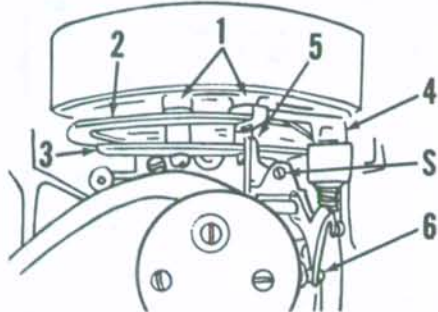

Fig. Mc5-3—Schematic view of speed control linkage used. Refer to text for details of adjustment.
**SPEED CONTROL LINKAGE.** The speed control lever on all models is connected to the magneto stator plate, and moves the plate to advance or retard the ignition timing. The carburetor throttle valve is synchronized to open as the ignition timing is advanced. It is very important that ignition timing and throttle valve opening be properly synchronized to obtain satisfactory operation. To adjust linkage, turn the speed control grip until the cam follower arm (5—Fig. Mc5-3) is centered on the first cam attaching spacer (1) as shown. Turn the adjusting screw (S) until the follower arm just contacts the speed control cam (3) and throttle lever (6) has not yet started to move. As a speed control grip is moved further toward the "FAST" position the throttle valve should begin to move from the closed position. If the follower arm fails to stay in contact with speed control cam, check for binding or damaged linkage.